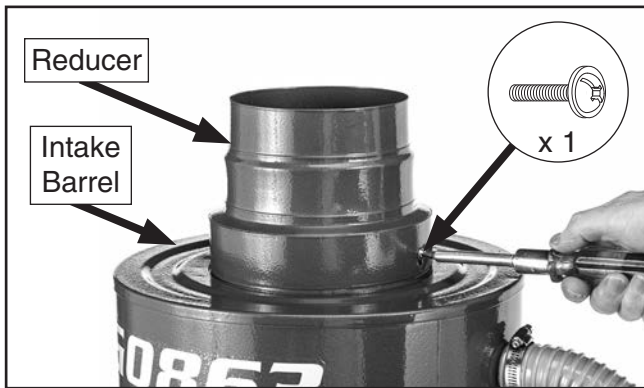

Figure 18. Installing reducer on intake barrel.
23. Install outlet reducer (see **Figure 18**) on intake barrel with 10-24 x 3/8" flange screw.